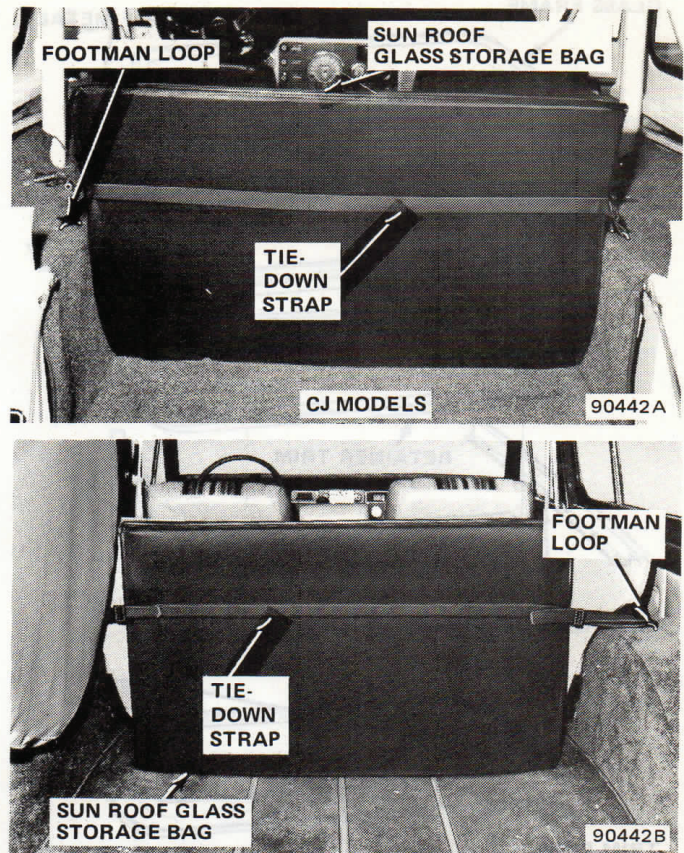

Fig. 14-19 Sun Roof Glass Panel Storage Bag Installation
(4) Replace carpet (if equipped), locate holes with a small center punch and install footman loop with machine screws, lockwashers and nuts.
(5) Repeat steps (1) through (4) above and install footman loop on opposite side of vehicle.
(6) Install storage bag by securing belts to footman loops (fig. 14-19).